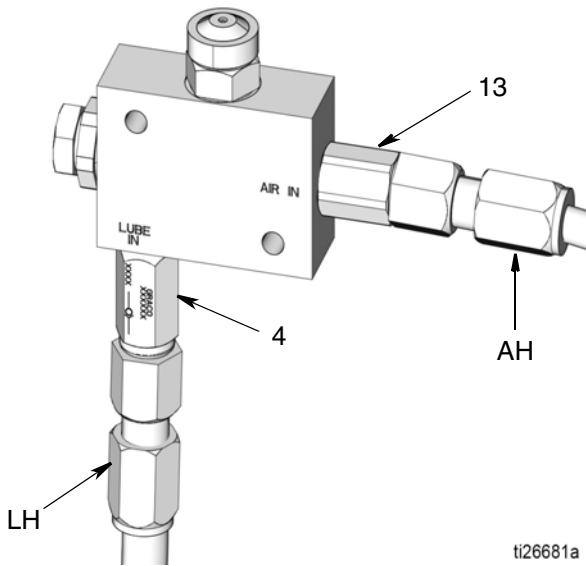

FIG. 3
3. Disconnect the air hose (AH) from air inlet (13) (FIG. 3).
4. Disconnect the lubricant supply hose (LH) (FIG. 3) from the check valve (4).